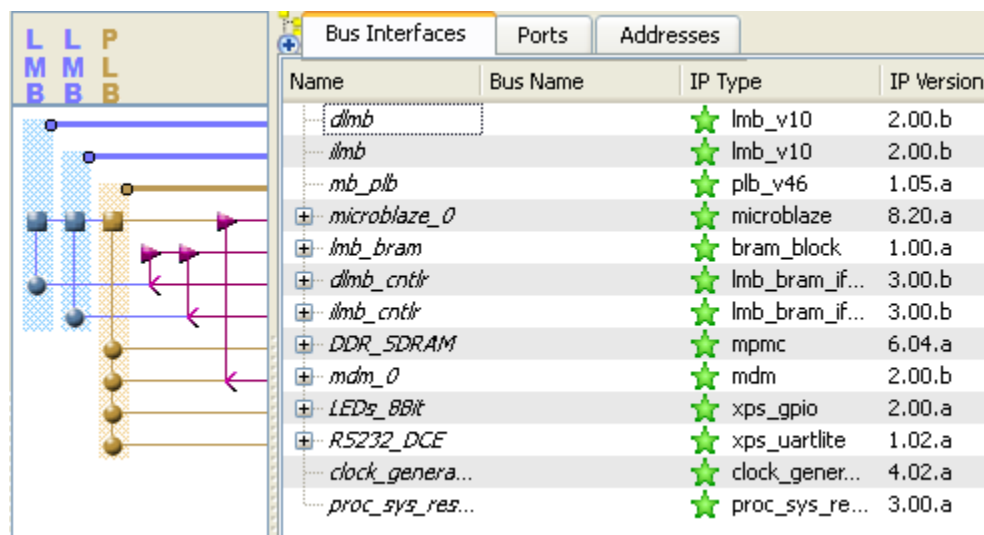

Figure 12. System Assembly View
- 1-2-4. A System Assembly View will be displayed (**Figure 12**) showing peripherals and busses in the system, and the system connectivity.